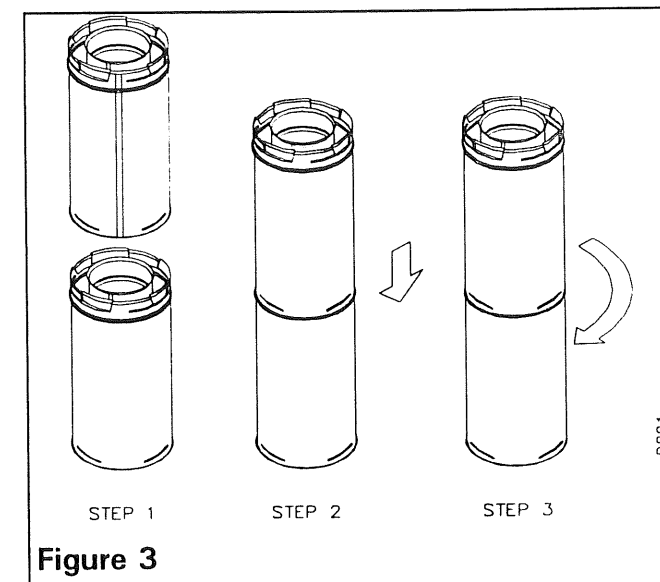

Figure 3
3) Install every section of pipe making sure that all joints are properly twist-locked (see figure 3).